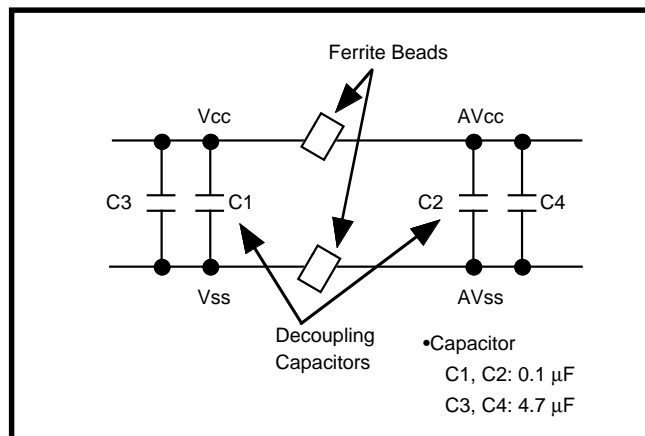

Fig. 3.3.4 Insulation connector connection
- An insulation connector (Ferrite Beads) must be connected between AVss and Vss pins and between AVcc and Vcc pins. (See Figure 3.3.4.)